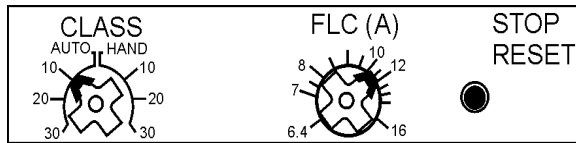

Figure 9. Electronic Overload Module
There are two dials on the **Electronic Overload Unit** (Figure 9) that require adjustment to meet the amperage requirement of the pump motor in use.
1. Set the **FLC (A)** dial pointer (Figure 9) to the correct amperage for the pump motor in use. Use Table 7, to determine the correct amperage setting.
1. Set the **CLASS** dial pointer (Figure 9) to the **HAND** position **10**. This controls the reset function only. It does not affect the ability of the pump to run with or without float switches.